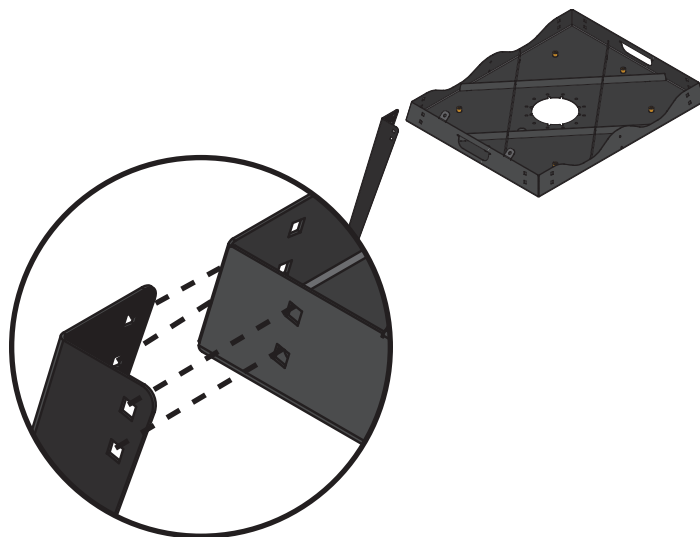
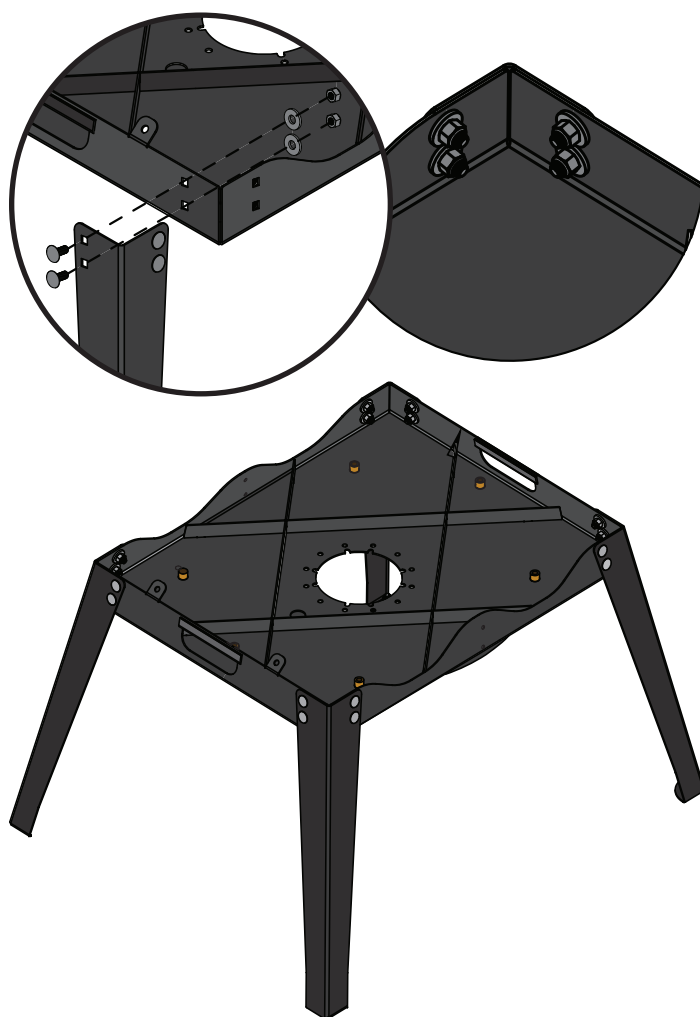

FIG. 4a
FIG. 4b
Align the Stand Leg (G) to the Stand Body (F) [FIG. 4a] then secure using four Carriage Bolts (H17), four Washers (H18), and four Nylock Nuts (H19) [FIG. 4b].